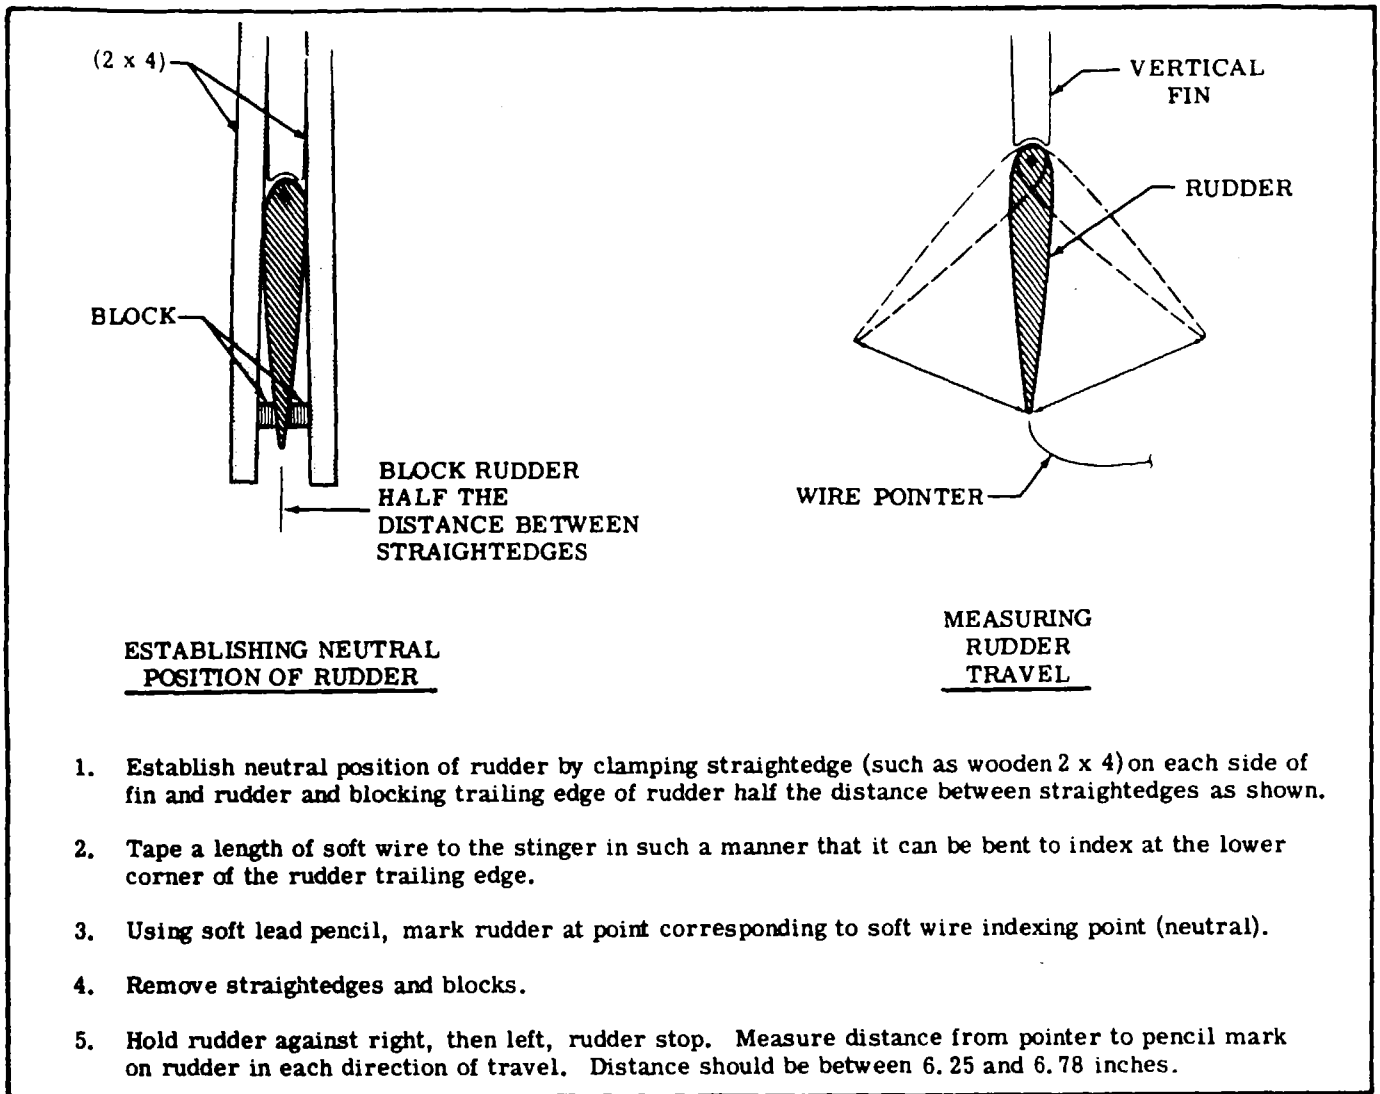

Figure 10-4. Checking Rudder Travel
- a. Adjust the travel stop bolts (20) to degree of travel specified in figure 1-1. Figure 10-4 illustrates the correct travel and one method of checking.
- b. Relieve the cable tension at turnbuckles (15).